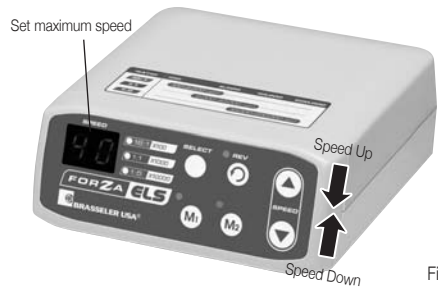

Fig. 9
4) Set the maximum speed using the speed control switches. (Fig. 9)